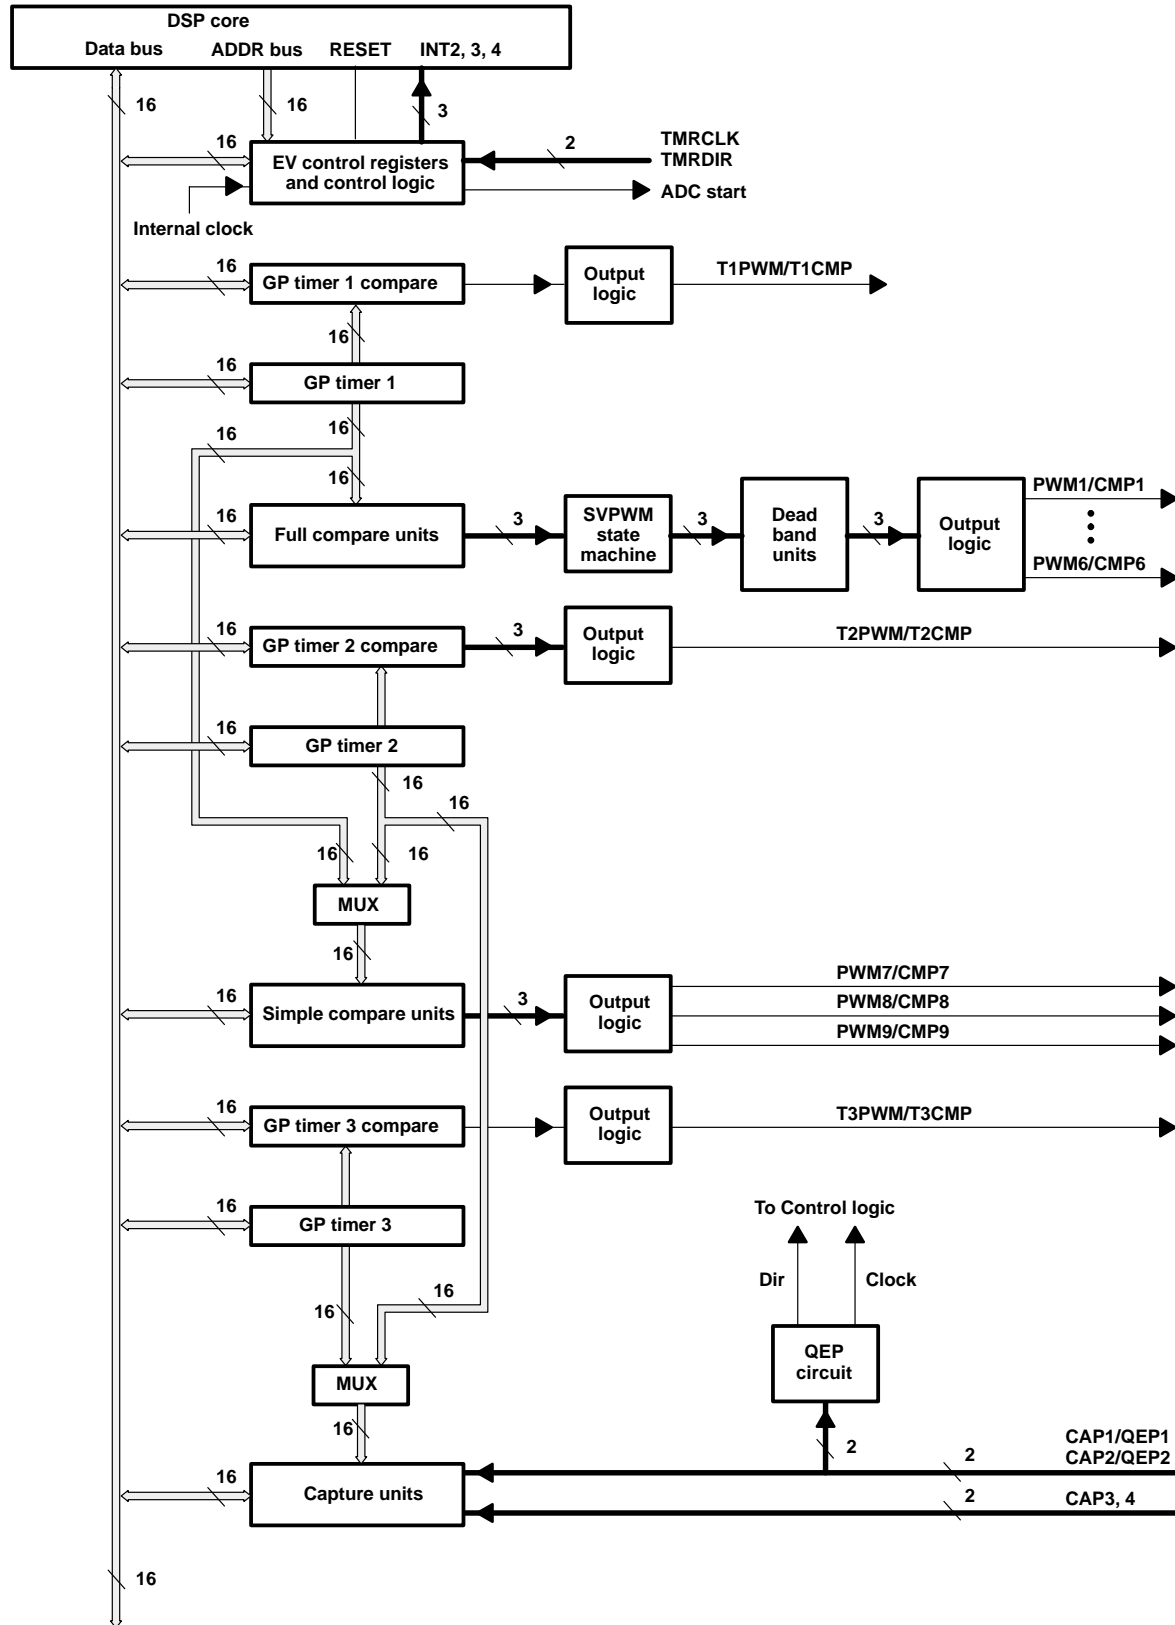

Figure 11. Event-Manager Block Diagram
**event-manager (EV) module**
The event-manager module includes general-purpose (GP) timers, full compare units, capture units, and quadrature-encoder pulse (QEP) circuits. Figure 11 shows the functions of the event manager.
**general-purpose (GP) timers**